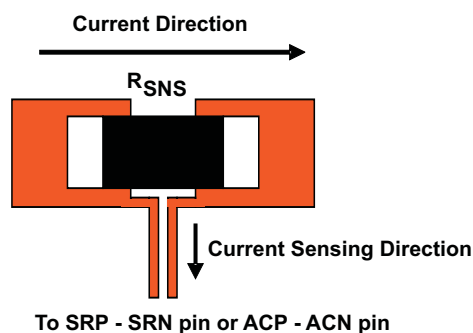

Figure 25. Sensing Resistor PCB Layout
4. The charging current sensing resistor should be placed right next to the inductor output. Route the sense leads connected across the sensing resistor back to the IC in same layer, close to each other (minimize loop area) and do not route the sense leads through a high-current path (see Figure 25 for Kelvin connection for best current accuracy). Place decoupling capacitor on these traces next to the IC.